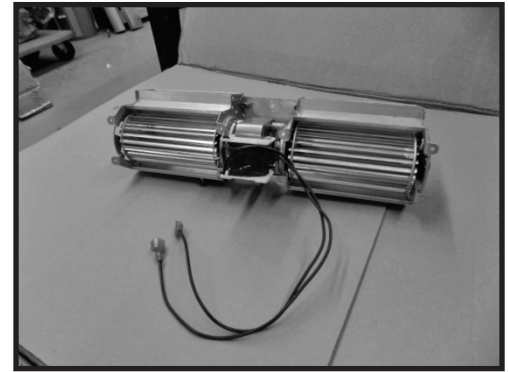

Figure 60
5. Disconnect the two power wires (Fig. 60) before fully extracting the fan from the opening.